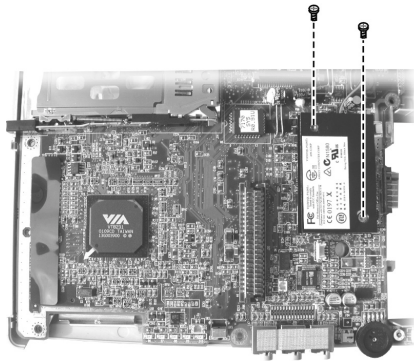

Figure 2-27
2. Remove the two screws fastening the modem card. (Figure 2-27)